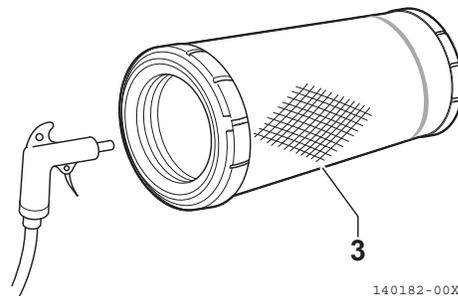

Fig. 8-47
5. Blow the dry, compressed air [100 PSI (0.7 MPa) or less] from inside the element (Fig. 8-47, 3) along the pleats to initially remove the dirt. Then blow compressed air from outside the element along the pleats to remove dirt. Blow compressed air again from inside the element, to complete the dirt removal.